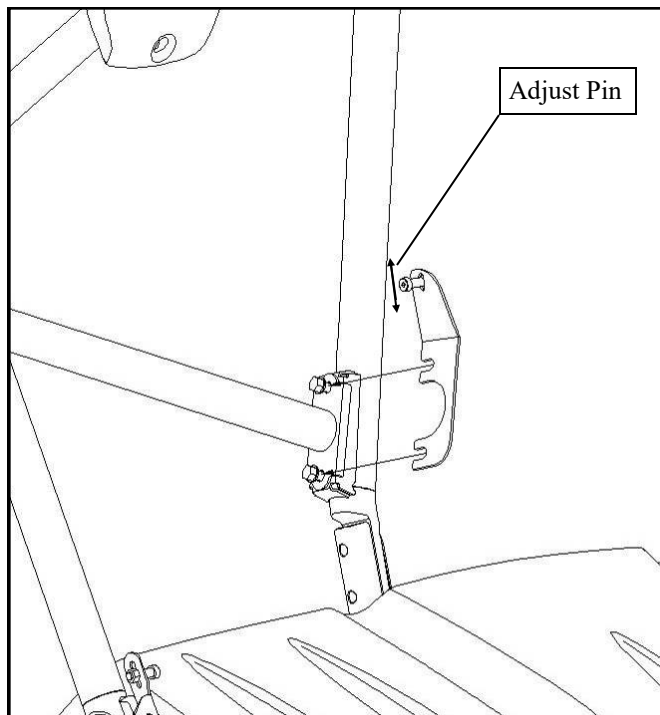

Figure 4.1 View of driver's side rear
4.1 Remove the seats. Remove and discard the two bolts shown in Figure 4.1 using a 14mm wrench. Install new bolts provided and install the bracket as shown so that the slots are fully engaged on the bolts. Tighten to 35 ft-lbs (47 N-m). Repeat for opposite side.
4.4 Slide the vinyl curtain between the dump bed and the ROPS (Roll Over Protective Structure) and snap it to the bottom of the rear panel. Pull it down tight to keep it from wrinkling. Attach the supplied 5/8" self-adhesive Velcro to the vehicle frame and ROPS structure where necessary to keep the panel tight. Use Figure 4.1, as well as the rear curtain, as guides for proper alignment. Velcro should also be attached to the plastic engine cover between the seats. The vinyl must fold forward and stay on top of the engine cover. Be sure to also install a piece of 1" wide loop Velcro along the rear of the ROPS tube as well to prevent vinyl from falling down when rear panel is removed. (Note: self-adhesive Velcro should be applied to a clean, dry surface at room temperature)